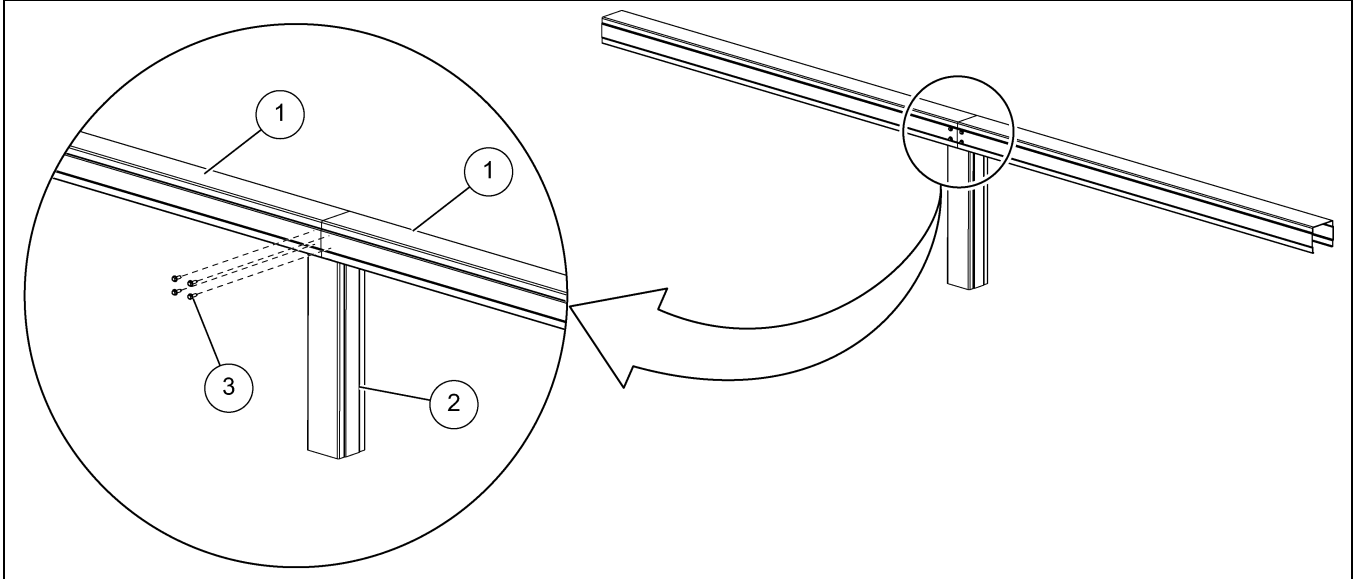

Figure 4G Installing the Screws in the Monorail
2. Use the four self-tapping screws (3) to secure the monorails (1) to the monorail leg (2) as shown in *Figure 4G*. (**NOTE:** See the orientation of the monorail leg (2) in *Figure 4G*.)